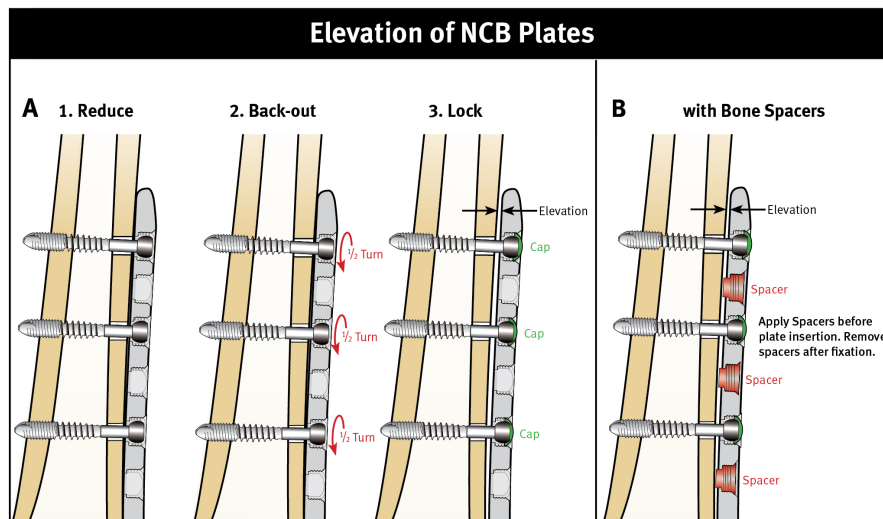

Fig. 17
**NOTE:** If NCB Spacers are not used, and the plate is directly adjacent to the bone, the *MotionLoc* Screws should be backed out  $\frac{1}{2}$  turn to provide a 1mm gap between the plate and the bone (Fig. 17).